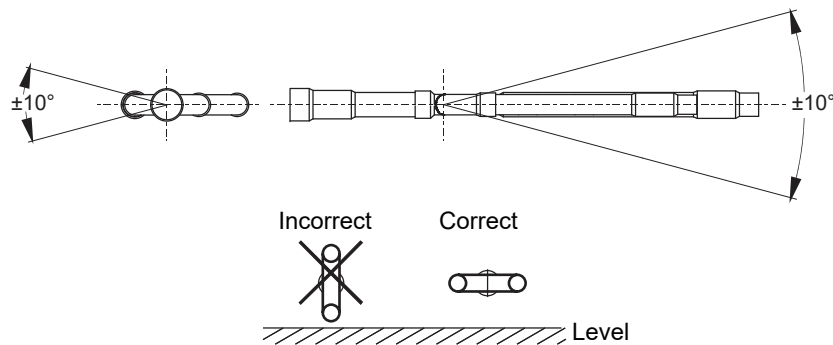

Fig. 4.10 Manifold assemblies installation
- 3) The manifold shall be installed as horizontally as possible, and the angle error shall be controlled within  $10^\circ$ , as any fault may happen if it is not correctly installed, as shown in Fig. 4.10.